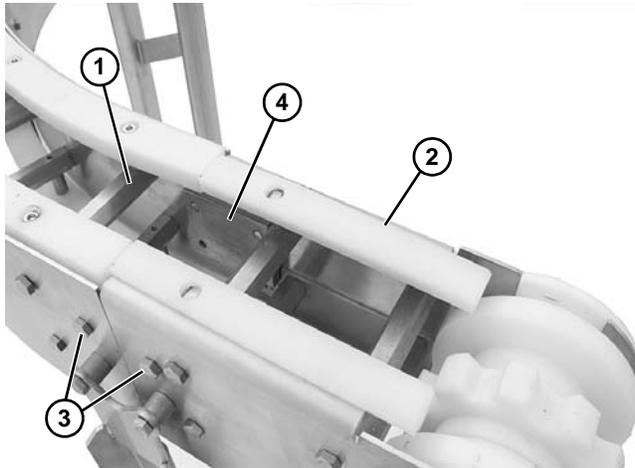

Figure 7
1. Join conveyor section (**Figure 7, item 1**) and tail assembly (**Figure 7, item 2**) and secure with two screws (**Figure 7, item 3**) and connecting plate (**Figure 7, item 4**) on both sides. Tighten screws.